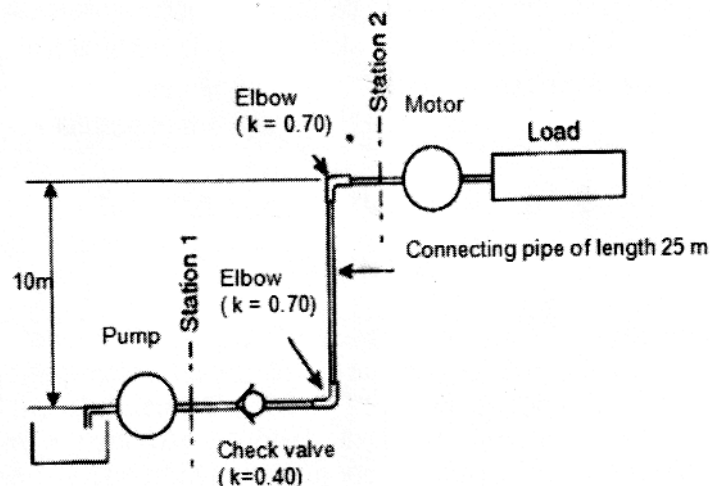

Fig. 11(b)(i) Hydraulic system
- (b) (i) The system shown in Fig 11(b)(i) contains a hydraulic pump delivering high pressure oil of specific gravity 0.9 and kinematic viscosity  $1.25 \times 10^{-4} \text{ m}^2/\text{s}$ , to a hydraulic motor. A 25 m pipe of internal diameter 30 mm and thickness of 10 mm connects the pump and motor. The pipe has two elbow fittings ( $k=0.70$ ) and one check valve ( $k=4.0$ ). The motor is placed 10 m above the pump. The pressure required to drive the loaded motor is 40 bar. Determine the pump discharge pressure, if the discharge from the pump is 180 lpm. (10)